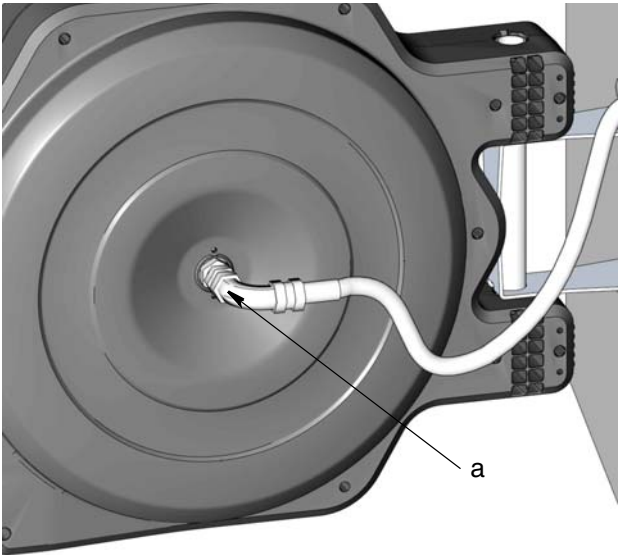

FIG. 6
3. Remove inlet hose (a) from swivel (FIG. 6).